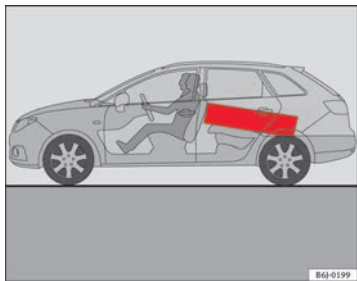

Fig. 87 Position heavy items as far forward as possible.
- Position heavy items as far forward as possible ⇒ fig. 87.